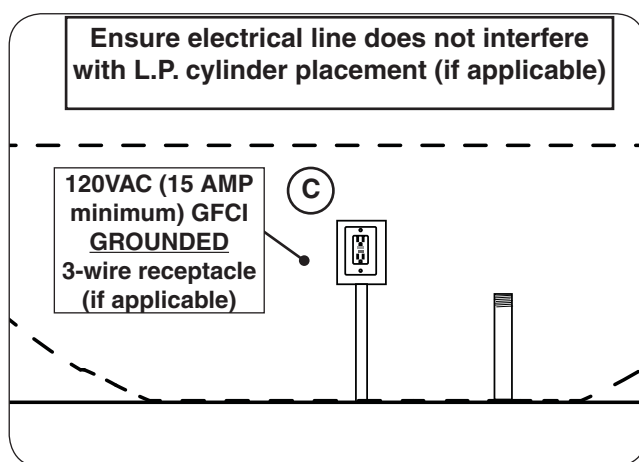

Fig. 21-2 Route electrical (if applicable)
1. Wire the receptacle into the area that the unit will rest over (see Fig 21-2, C).